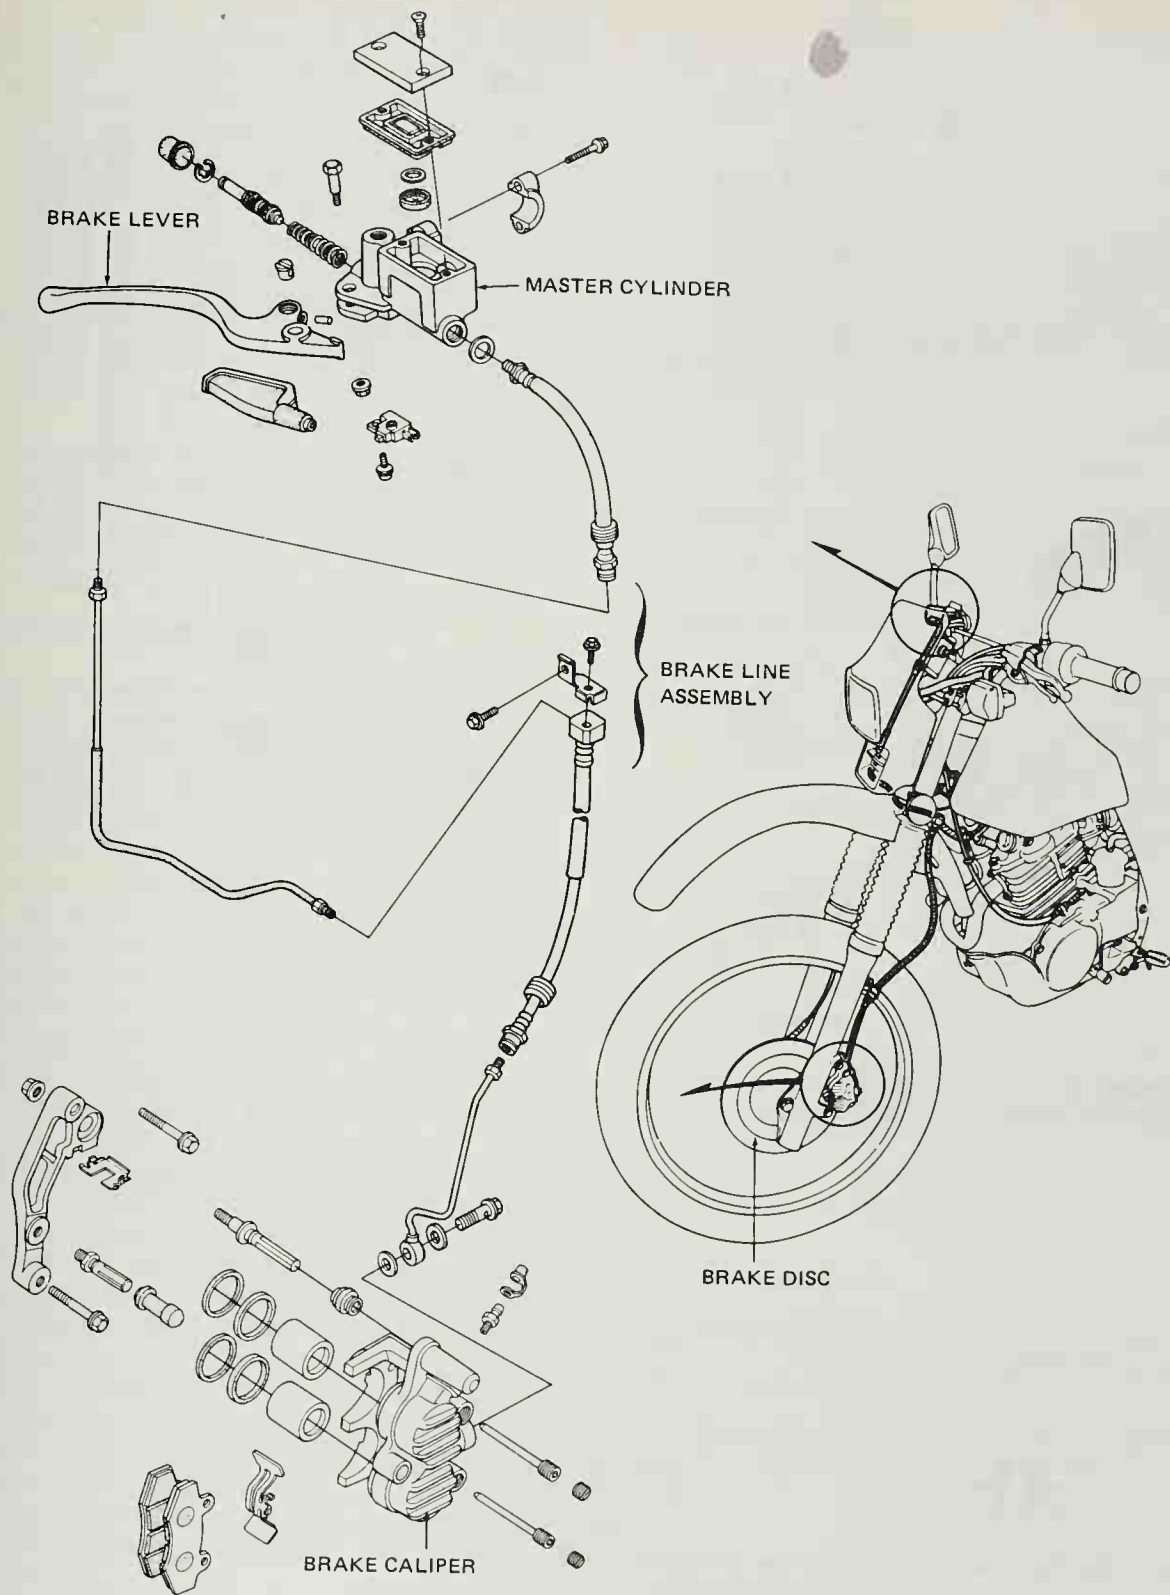

Figure 25-13. Master cylinder. (Honda Motor Co., Ltd.)
The brake lever on a disc hydraulic brake system is connected to a hydraulic device called a *master cylinder*. The master cylinder provides (1) a reservoir of hydraulic fluid for the system, and (2) the input force (with a piston assembly) for the hydraulic system. The force developed by the master cylinder is transferred by means of hydraulic lines to the disc brake mechanisms on the wheels (Figure 25-13).